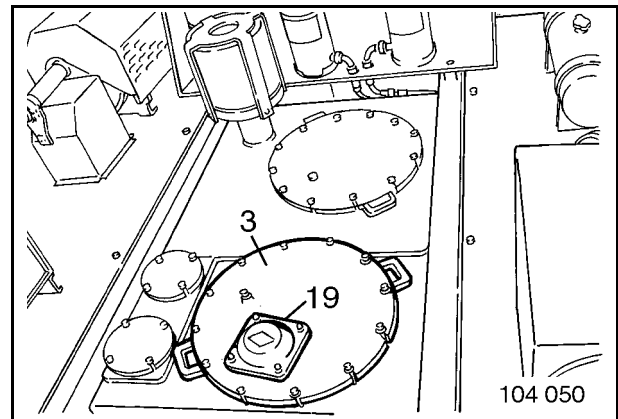

Fig. 3-74:
- Remove cover (19, Fig. 3-74:). abnehmen.
- Before fitting the cover (19), check the sealing ring and replace, if damaged.